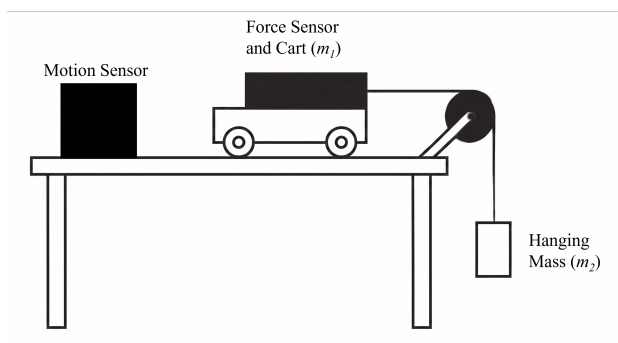

Figure 3: Experiment 2 set up.
1) Next, consider the setup in Figure 3: A cart and force sensor are screwed together so they act like one combined mass. The force sensor has a string tied onto its hook, which passes over a pulley, and has a mass hung from it. Answer Questions 11 and 12 on the attached worksheet about this setup.
3) Set up the experiment shown in Figure 3. You will likely need to level the track as best as possible by turning the track legs. A cart will not roll freely on its own on a level track. Change the graphs displayed by Vernier Graphical Analysis so that one displays force and one displays acceleration (adjust the number of graphs shown via the box in the upper right and what each individual graph is by clicking on their y-axis title). Click collect,
Question 11: Draw a free body diagram for both masses m_1 and m_2 shown in Figure 3.